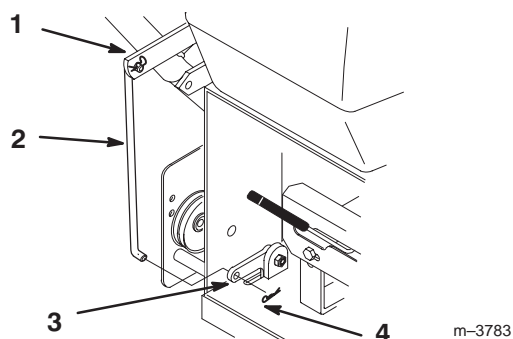

Figure 8
2. Secure blade control (PTO) rod through hole in bellcrank with hairpin cotters (Fig. 8).
3. Replace the spring washer, dish down, and locknut (Fig. 8).